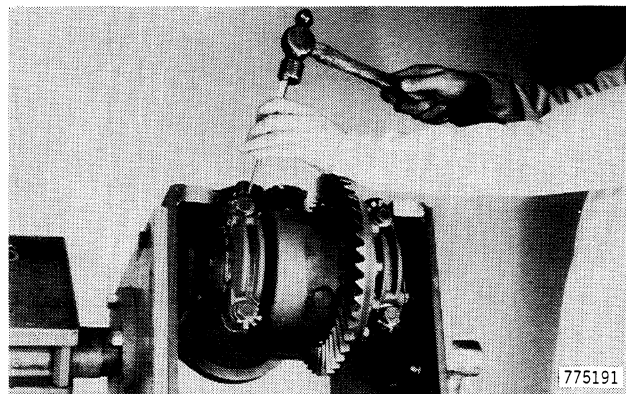

Figure 209
- 59. Bend tabs against differential cap retaining cap screws, Figure 209.